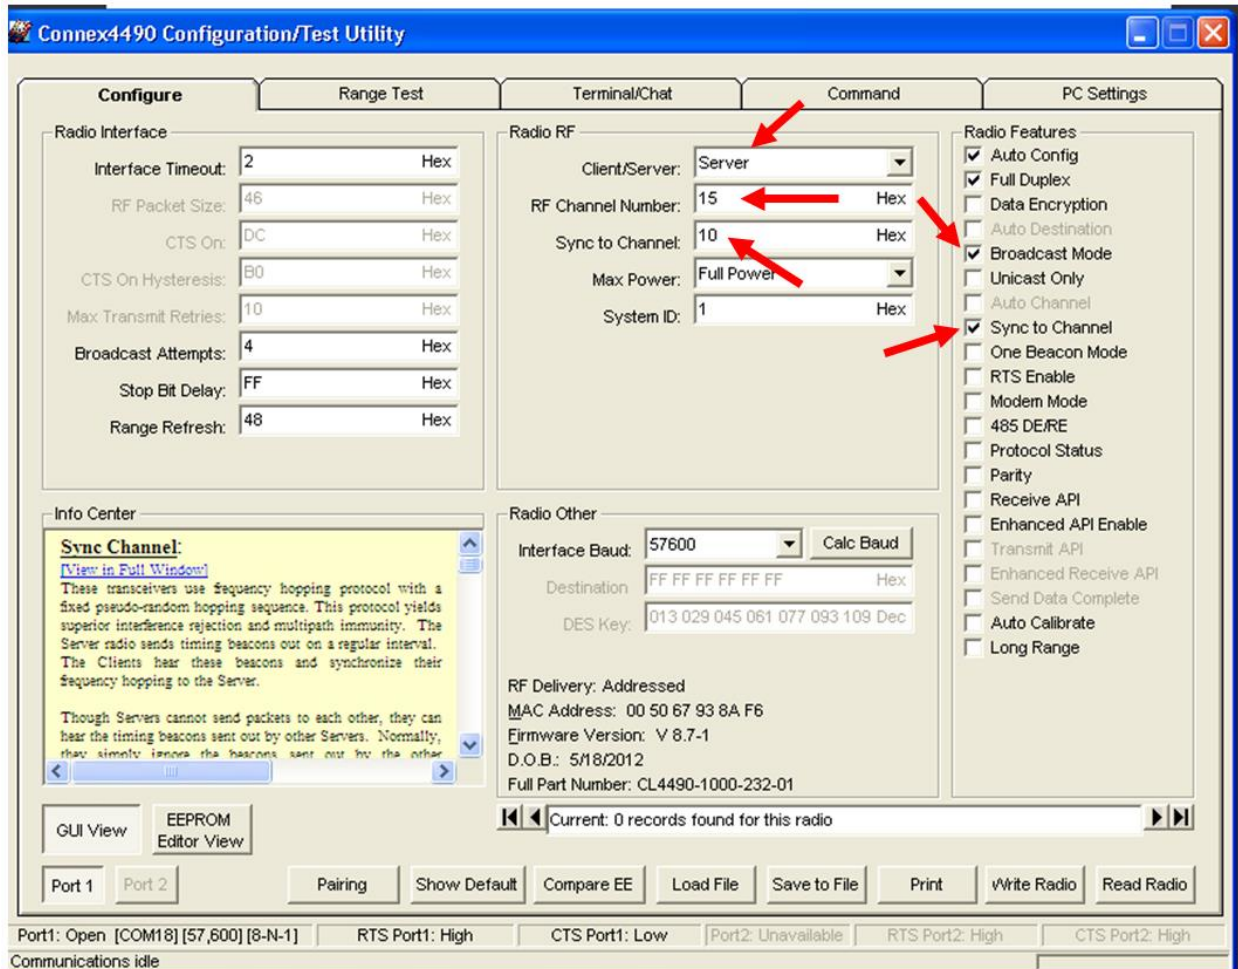

Figure 13: Server #2 settings
- Configure server #2 as *Server* and *Broadcast Mode* with an RF Channel Number at least 4-5 steps above the RF Channel Number of the Hop Master. Under the *Radio Features* section, check the **Sync to Channel** box and in the *Radio RF* section, set the Sync to Channel to the RF channel of the Hop Master (Figure 13). Click **Write Radio** to write the changes to the radio's EEPROM.